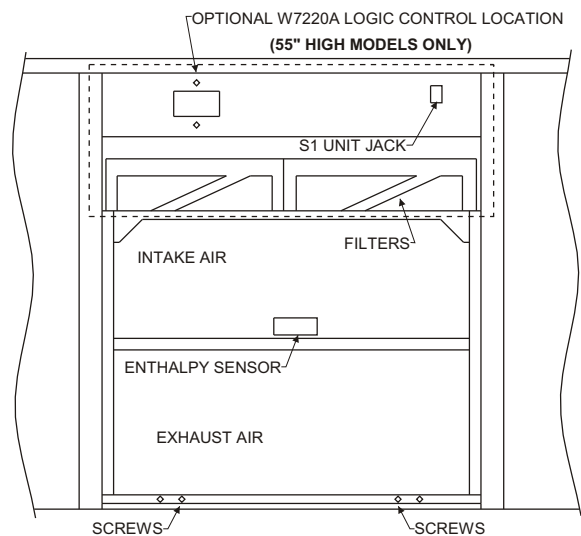

Figure 5
6. Remove the filter access panel and locate the unit's economizer connection (S1) and remove the installed jumper plug. See Figure 5.
8. Slide economizer into the unit while fully inserting economizer side flanges into the unit standing seams. Route and secure any loose wiring away from moving parts of the economizer. Using existing screws from bottom of discarded return air panel to secure economizer bottom flange to unit. See Figure 5.